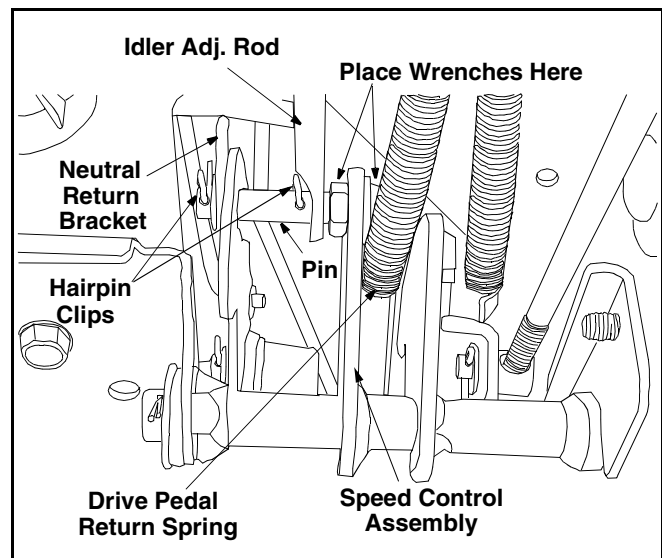

Figure 17
- Remove both hairpin clips from the pin which is fastened to the speed control assembly (be careful not to lose the small flat washers found on the pin). See Figure 17.
- Using two 9/16" wrenches, remove the pin from the speed control assembly. See Figure 17.